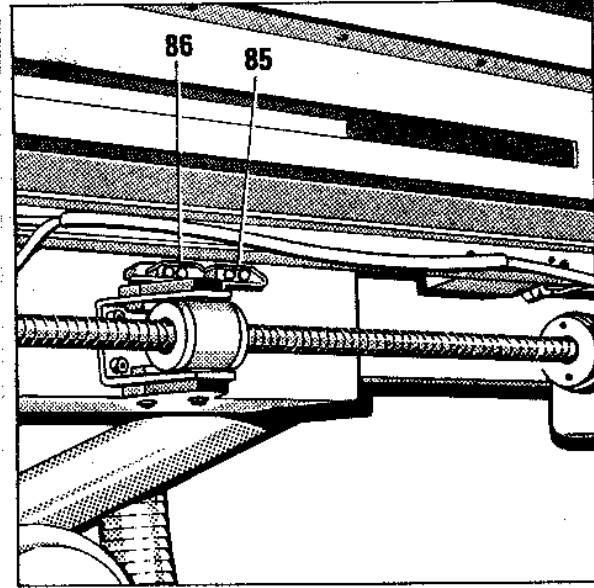

Fig.21
- drive column motion to the head end and check limit switch -S40. Adjust switch cam if necessary (Fig.21, item 85).
- drive column motion to the foot end and check limit switch -S42. Adjust switch cam if necessary (Fig.21, item 86).